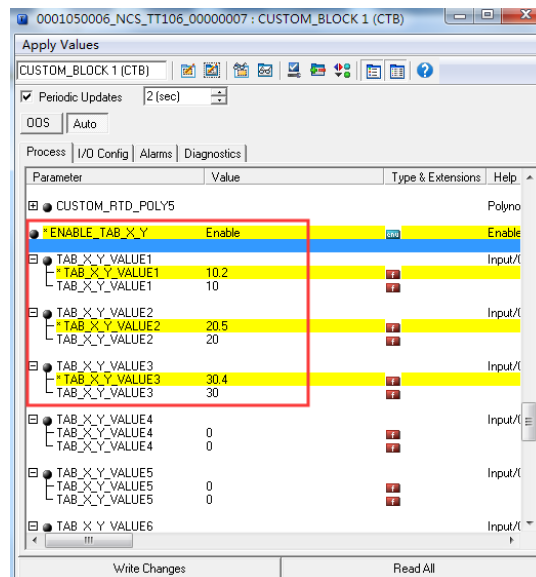

Figure 3.11 Acquisition parameter configuration
(2) Input the standard signal through the standard source, and open the transducer block TEMP\_SENSOR1 in the configuration software, read the value of the parameter PRIMARY\_VALUE, and write the value to the first place in the TAB\_X\_Y\_VALUE1, TAB\_X\_Y\_VALUE2, and TAB\_X\_Y\_VALUE3 arrays. For example, write the read 10.2, 20.5, 30.4 in the array, and set the parameter ENABLE\_TAB\_X\_Y to "Enable" as shown in Figure 3.11. This is the end of calibration work.